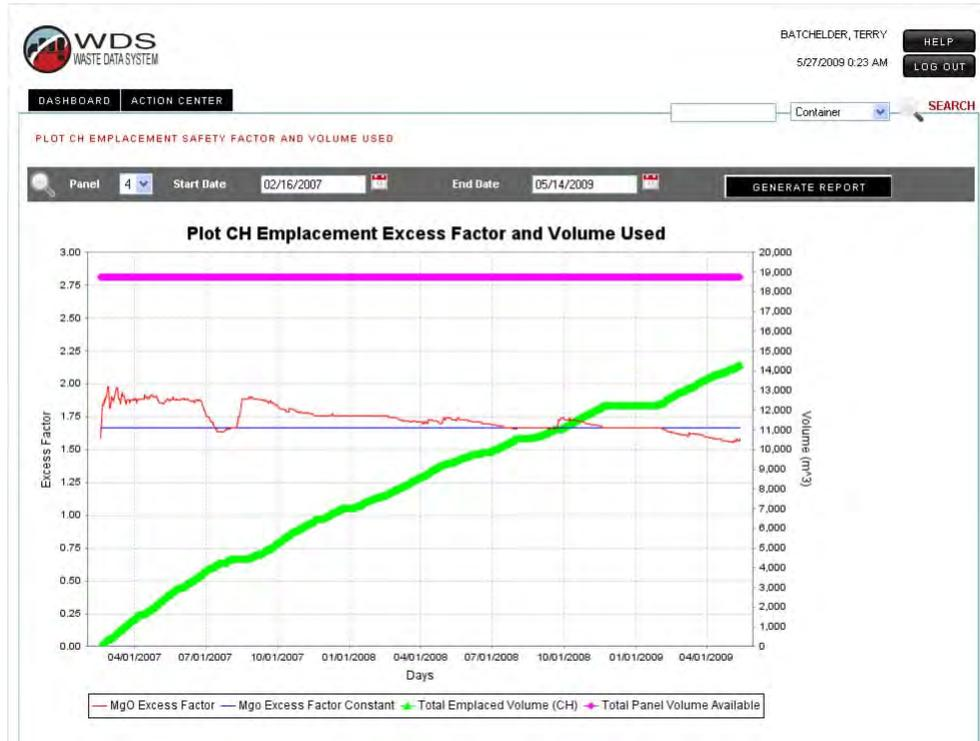

Figure 6 - 9 – Plot CH Emplacement Safety Factor and Volume Used
6.5.4 Select the **Generate Report** button as shown in Figure 6 - 9.